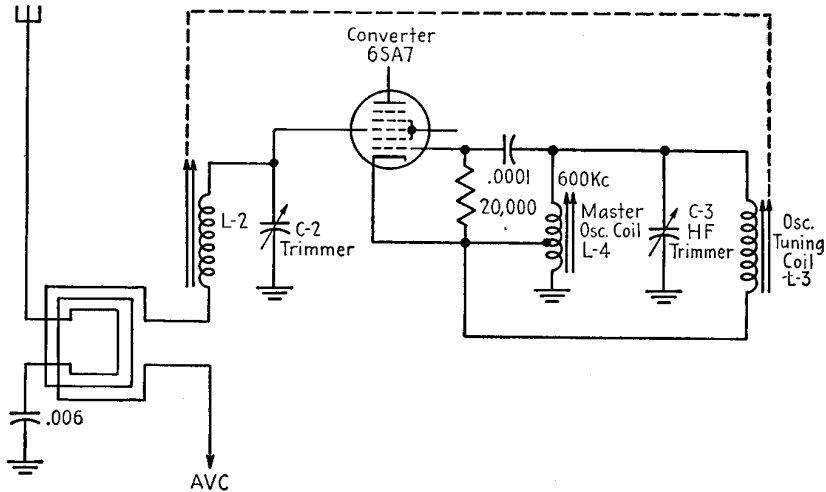

FIG. 15-17.—Two-coil permeability tuner fed by a loop antenna.
Antenna plates are commonly used in receivers employing permeability tuners. However, there are some receivers that employ a loop antenna. Figure 15-17 shows a two-gang permeability tuner of the screw-drive type fed by a loop antenna.
8. What is the function of *L-4* in Fig. 15-17? What is the function of *L-3* in the same drawing?